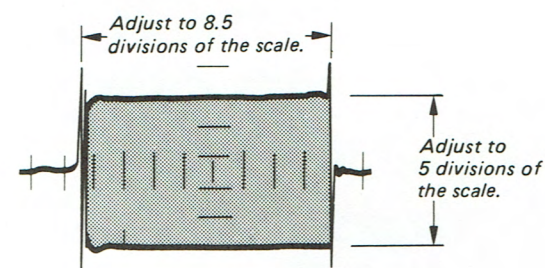

Fig. 27-3.
7. Turn the voltage knob and time axis knob on the oscilloscope properly so that the output waveform is 5 and 8.5 divisions of the scale in the vertical and horizontal directions. (See Fig. 27-3.)
12. Turn the voltage knob and time axis knob on the oscilloscope properly so that the output waveform is 5 and 8.5 divisions of the scale in the vertical and horizontal directions as same as step 7. (See Fig. 27-3.)